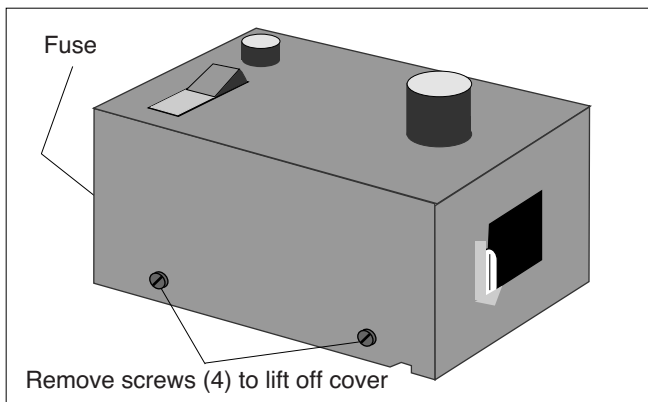

Figure A3 Light Source
- ① If at any time the Light Source fails to come on, check the fuse mounted on the rear panel. If the fuse is unbroken, remove the top cover of the Light Source by removing the four screws as shown in Figure A3, and replace the light bulb. If problems persist, contact PASCO scientific.